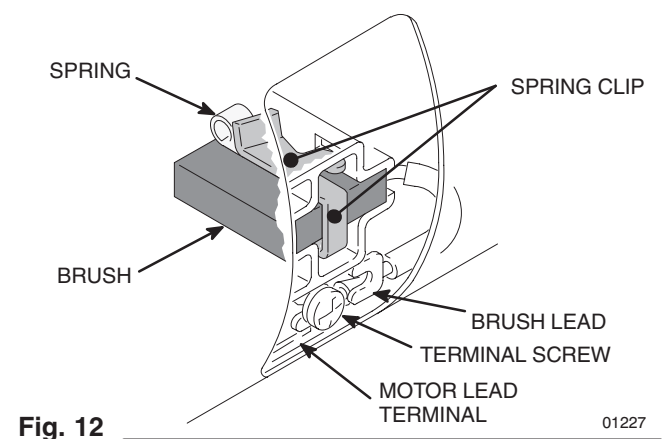

Fig. 12
4. Loosen brush lead terminal screw. Pull brush lead away, leaving motor lead terminal in place. Remove brush and spring. See Fig. 12.
7. Slide terminal under terminal screw washer and tighten screw. Be sure motor lead is still connected at screw. See Fig. 12.